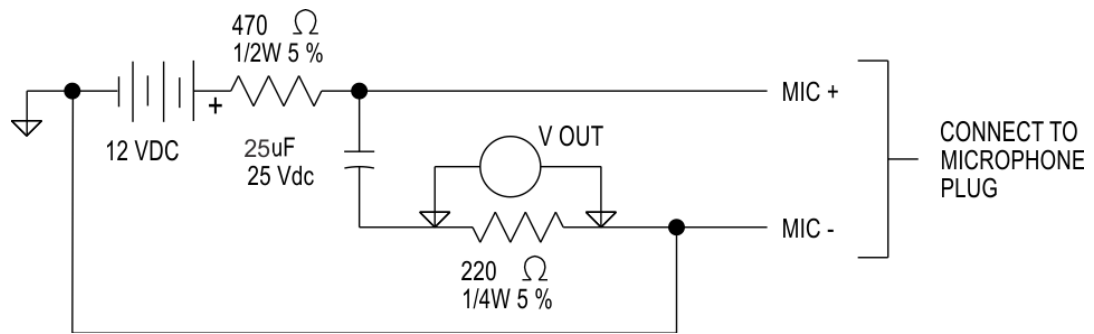

FIGURE 6. Test Circuit
1. Construct a **test circuit**. For more information, see Figure 6.